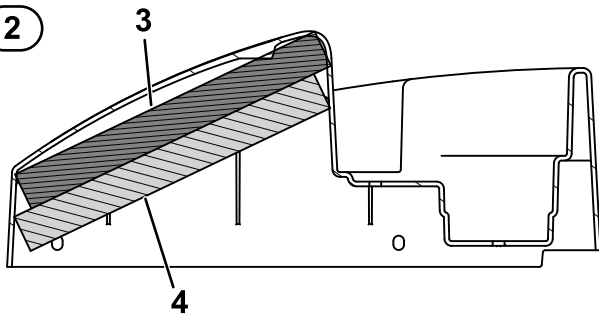

Figure 16
Figure 16 shows a top and cutaway (side) view of the foam installed in the cover.
7. Install the lower brake-cover foam onto the upper brake-cover foam (Figure 15 and Figure 16).